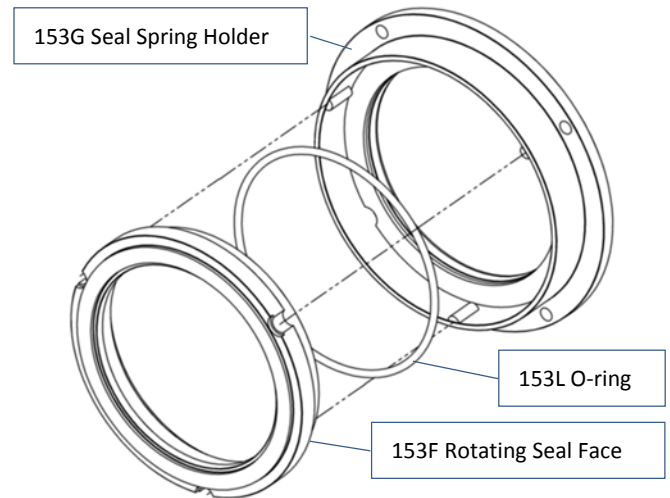

Figure 8 – Seal carbon alignment
16. Install carbon rotating face (153F) and O-ring (153L) over shaft sleeve (154A) while aligning drive notches in carbon with drive pins in seal rotating assembly. (see figure 8)
15. Install carbon rotating face and O-ring over shaft while aligning drive notches with drive pins in seal rotating assembly. (see figure 8)
19. Hand pack the ball bearing (24) with grease. Refer to the "Lubrication" section for the recommended grease.
21. Temporarily attach the bearing cover (27) and gasket (26) to hub and hand tighten capscrews (28).